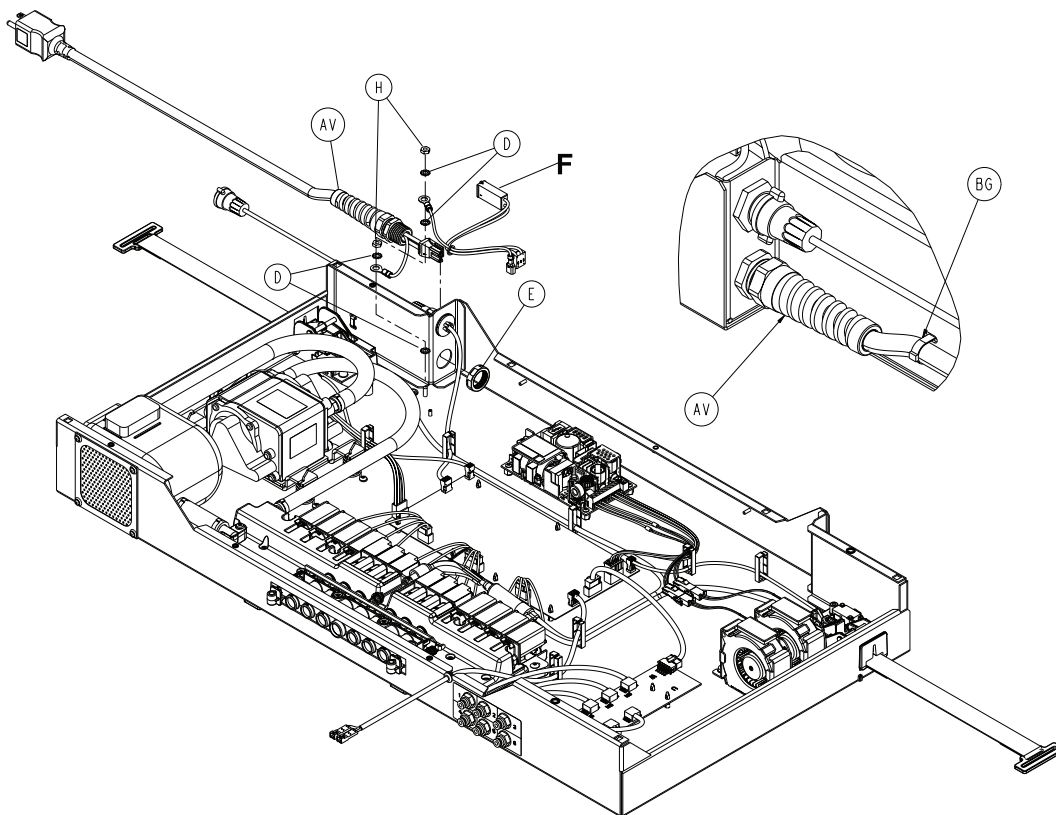

Figure 1-22: Power cord
2. Using diagonal pliers, cut the cable tie (BG) (Figure 1-22 on page 1-48) and discard.
3. Using a 5/16" Nut driver, remove the two nuts (H) and four star washers (D) that secures the power cable ground connector (Figure 1-22 on page 1-48). Save the nuts and star washers.
4. Using a 1" combination wrench, remove the nut (E) securing the power cord strain relief to the foot box.
5. Feed the ground through the plastic retaining nut (E) (Figure 1-22 on page 1-48).
6. Disconnect the power cord quick connect (F) from the power supply (Figure 1-22 on page 1-48).
7. Feed the two pin connector through the nut (E) (Figure 1-22 on page 1-48).
8. Remove and discard the power cord (AV) (Figure 1-22 on page 1-48).